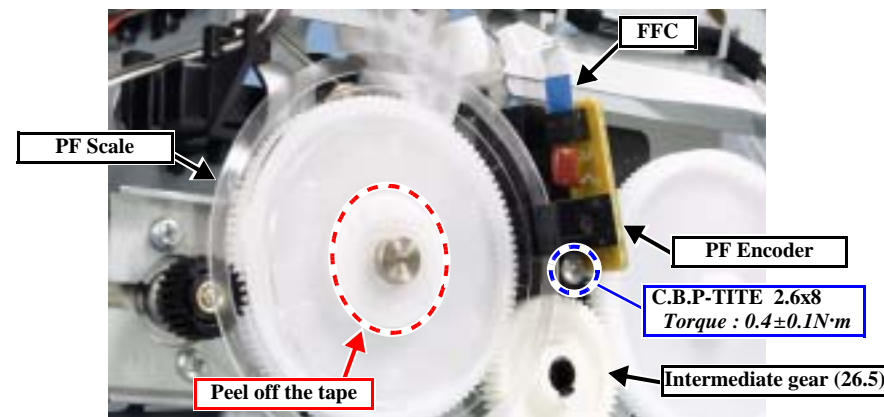

Figure 4-54. Removing the PF Encoder / PF Scale
2. Disconnect the FFC of the PF Encoder, remove the screw, and remove the PF Encoder. (Fig. 4-54)